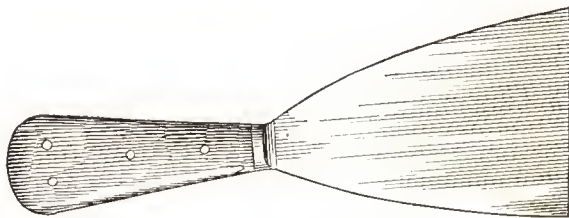

FIG. 46
**Scraping Knives:** Figure 46. Really a wide putty knife. Comes  $2\frac{1}{2}$  to 4 inches wide and is used for scraping off paint from old surfaces when the paint has cracked and sealed or blistered.